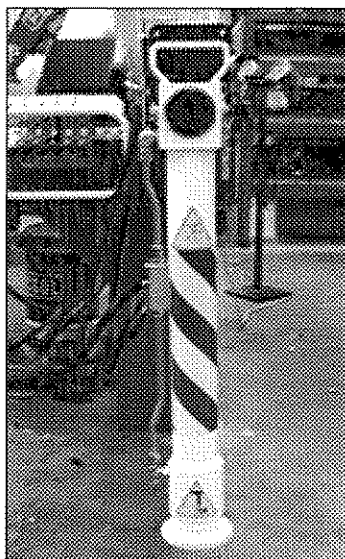

fig. 18
- Position, carefully, the ram in working condition, insert the locking pin in its new position (fig. 18) and secure it with the check pin.